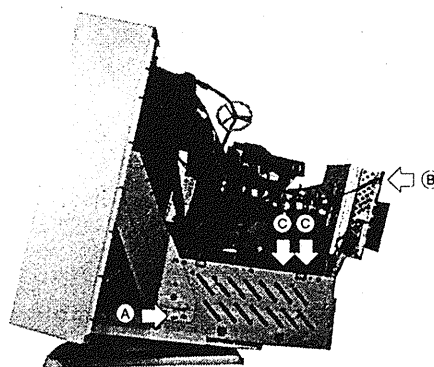

Figure 2-4 Remove the Neck Board (right side)
1. Remove the screw at the holder. Refer to the figure 2-4 (A).
2. Disconnect the ground wire from the neck shield. Refer to the figure 2-4 (B).
3. Remove the two connected pins from the main board. Refer to the figure 2-4 (C).